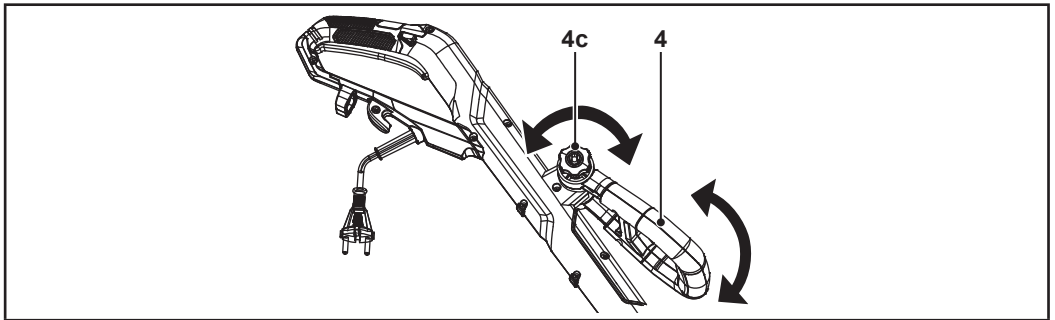

Fig. 4
1. Loosen the auxiliary handle rotary lock (4c) (Fig. 4).
2. Adjust the auxiliary handle (4) (Fig. 4).
3. Tighten the auxiliary handle rotary lock (4c) (Fig. 4).
4. Make sure that the auxiliary handle (4) is locked in place.